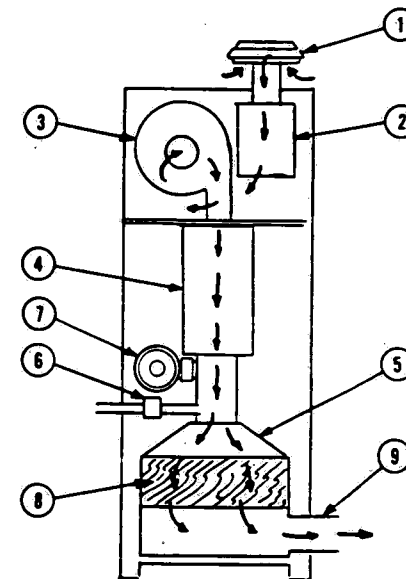

Figure 3-1. Disposer Air Flow
As the gas is vented to the Disposer it is mixed with air (see Figure 3-1). The ethylene oxide is removed from the air by the equation:  $2\text{CH}_3\text{CH}_2\text{O} + 5\text{O}_2$ , catalyst  $4\text{CO}_2 + 4\text{H}_2\text{O} + \text{heat}$ . Ambient air is pulled into the Disposer through the air inlet (1) and the pre-filter (2) by the blower (3). The air then passes through the electric heater (4) where it is heated, and then into the transition plenum (5) where EO is fed into the airstream through a solenoid valve (6). EO is pulled from the sterilizer by vac pump (7). As EO enters the airstream it is diluted by the preheated inlet air and then directed into the catalytic cell (8) where the EO is catalyzed in accordance with the above reaction. The heat given off by this reaction raises the temperature of the catalytic cell and the effluent airstream in proportion to the amount of EO introduced into the stream to a maximum of 500° F (260° C).